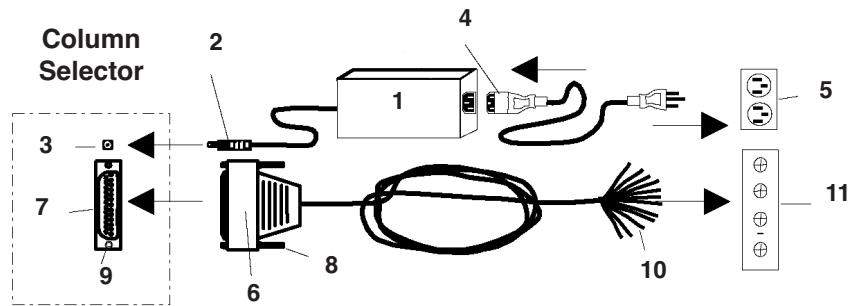

Fig. 3. Electrical and communications connections to Column Selector.
1. See Figure 3 for an illustration of the electrical connections.
1. All electrical and communications connections to the Column Selector are made in the rear of the unit (see Fig. 3):
- a) Plug the Power Supply (1) male-barrel terminal (2) into the Column Selector female port (3).
- b) Plug the IEC 320 connector (4) of the Power Line Cord into the Power Supply box (1).
- c) Plug the opposite end of the Power Line Cord into a properly grounded power source (5). The *Universal Power Supply* can be operated from *inputs* of 100-240 VAC, 50-60 Hz. The *output* is 24VDC, 1.7A.
- (1) *Line control* using the interface cable with *contact closures* or *TTL* relays.
- (2) *Serial communication* using an RS-232 cable and software.
- b) For *line control* use the supplied 25-pin *Interface Cable*. The Cable is plugged into the 25-pin terminal on the Column Selector. The loose wires on the opposite end of the Cable are wired to an appropriate *output* device on your instrument, such as an *External Event Relay* or a *Time Function Switch*. The *output* must be either *contact closure* or *TTL* in order to connect the Column Selector to your instrument (see **Caution - III. A. 1.**). See Figure 3.
- (1) Plug the *Interface Cable* connector (6) into the 25-pin terminal (7) located on the rear of the Column Selector. Tighten the connector screws (8) into their mating terminal ports (9).
- (2) Connect the color coded *Interface Cable* wires (10) to the HPLC controller *contact closures* or *TTL* relay (11), as described in more detail in the next section “Input Line Control.”
- c) For *serial communication* the *interface cable* is replaced with a RS-232 cable. The serial cable is connected between the 25-pin terminal on the Column Selector and the appropriate *output* on your computer. See Figure 3.
- (1) Plug the RS-232 cable connector (6) into the 25-pin terminal (7) located on the rear of the Column Selector. Tighten the connector screws (8) into their mating terminal ports (9).
- (2) Connect the opposite end of the RS-232 cable (not shown) into the HPLC controller computer port, as described in more detail in **Section VI.e.**